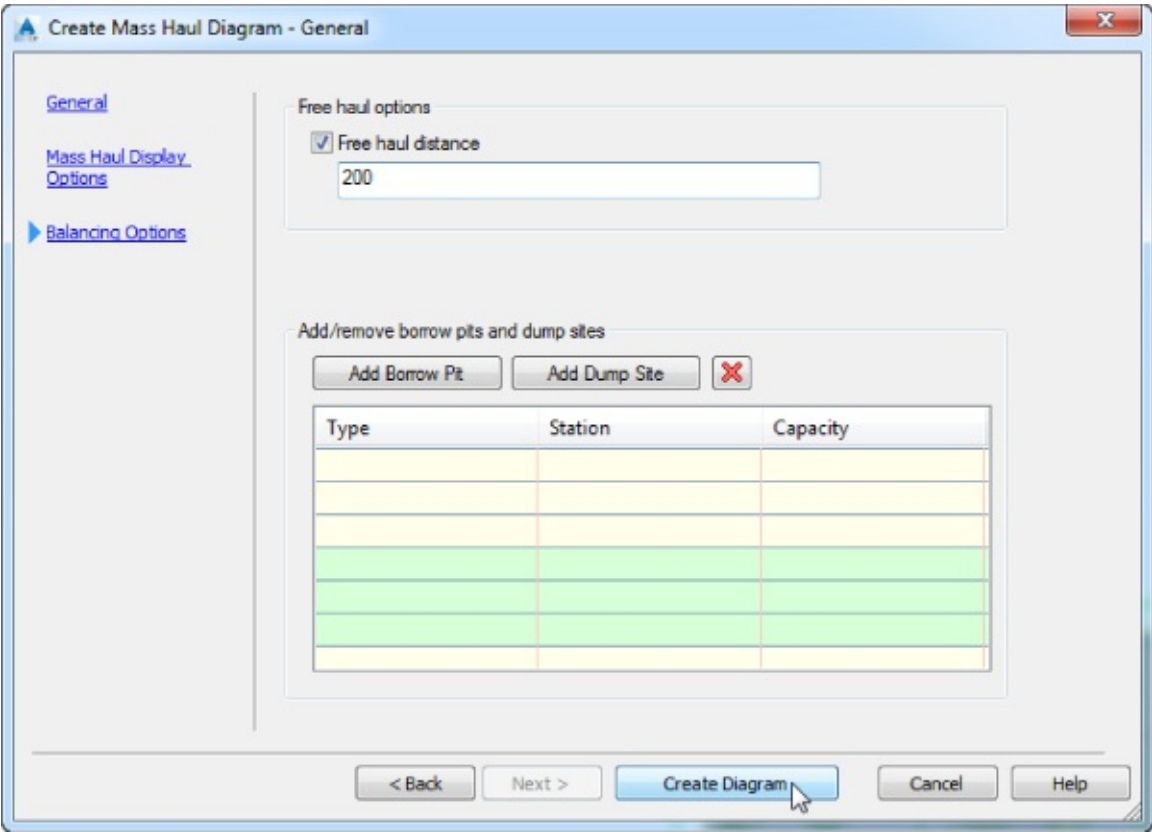

Figure 12.28 The Balancing Options page of the Create Mass Haul Diagram Wizard
- 6. Set the distance to **200** (**60** for metric users), as shown in Figure 12.28, and click Create Diagram.